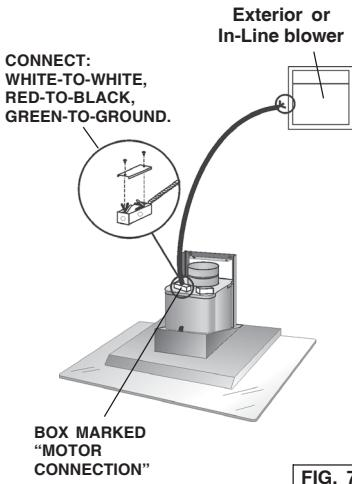

FIG. 7
1. Run conductors (2-wire plus ground) from the Exterior or In-Line Blower to the hood's wiring box marked "motor connection". Fig.7
2. Remove the cover from the wiring box and remove one knockout. Fig. 7
3. Secure the conduit to the wiring box through a conduit connector. Fig.7
4. Make electrical connections at the hood. Connect white-to-white, **red-to-black** and green-to-ground. Fig.7